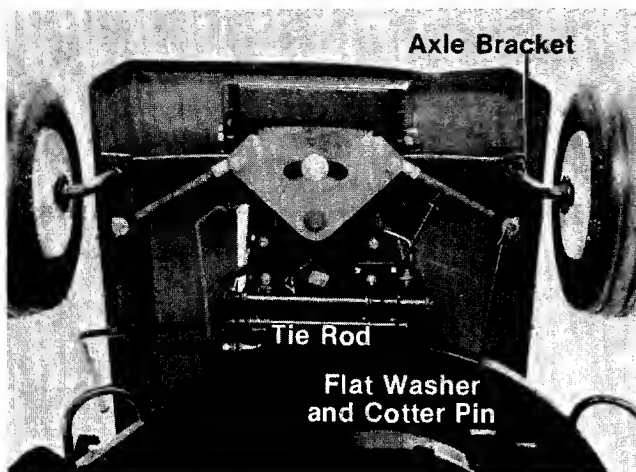

FIGURE 25.
The caster (forward slant of the king pin) and the camber (tilt of the wheels out at the top) require no adjustment. Automotive steering principles have been used to determine the caster and camber on the mower. The front wheels should toe-in 1/8 inch. See figure 25. To adjust, follow these steps:
1. Remove the cotter pin and flat washer which hold the tie rod to the axle bracket. See figure 25.